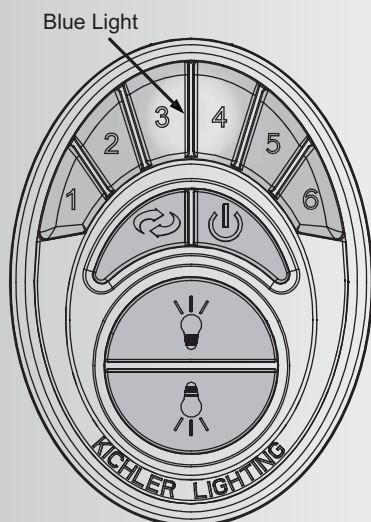

Fig. 20
3. Test the transmitter by pushing and releasing ANY button briefly. A Blue Light should illuminate under the 3-4 buttons. (Fig. 20) If not, check to make sure the batteries are inserted and seated correctly.